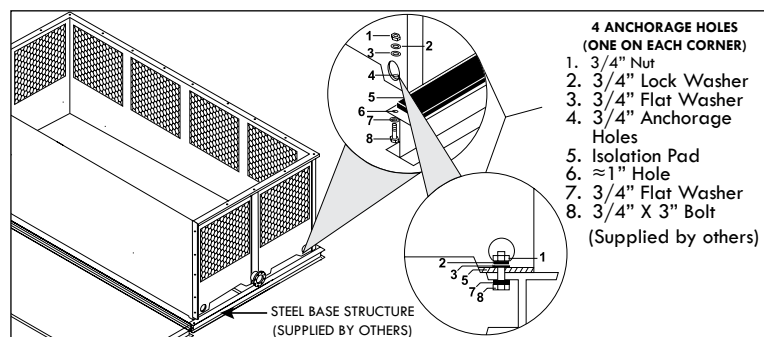

Figure A-25: Typical anchorage for a Four Fan Tower
- H. Place the basin section of the Tower on top of the isolation pad and the base structure; Secure it with the galvanized steel nut and bolt sets (supplied by others) as shown on Figure A-25.